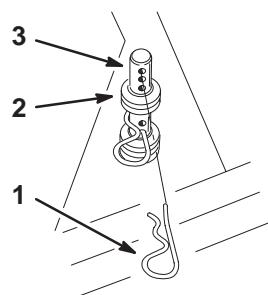

Figure 13
3. On the opposite side of the muffler, install unused spacers onto front and rear height-of-cut pins and insert the hairpin cotter pins (Fig. 13).